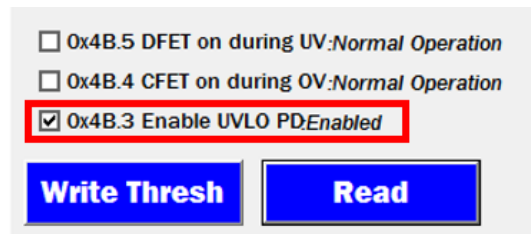

Figure 25. Enable UVLO PD Option
**Note:** The ISL94202 can be configured to power down when a UVLO condition occurs. To enable this, check the box labeled **0x4B.3 Enable UVLO PD** on the bottom of the **Voltage** tab as shown in Figure 25. When the device is in power-down, it can only wake up with a charger detection (**Wake up** button on EvKit). If the cell voltage(s) are below the UVLO threshold the device immediately returns to power-down.